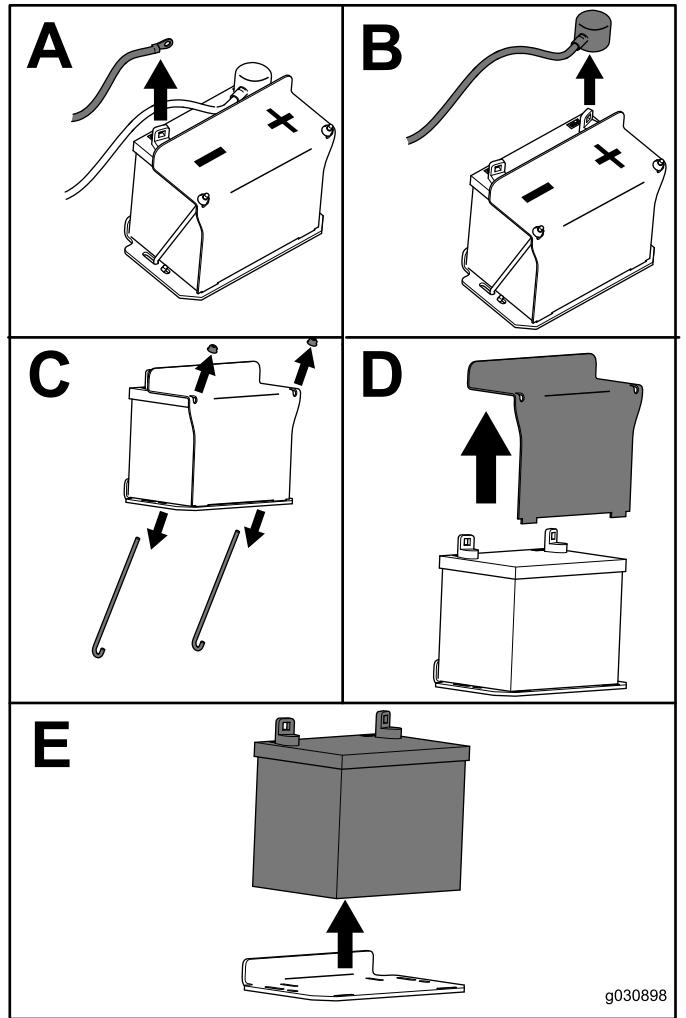

Figure 54
- Remove the battery as shown in Figure 54.